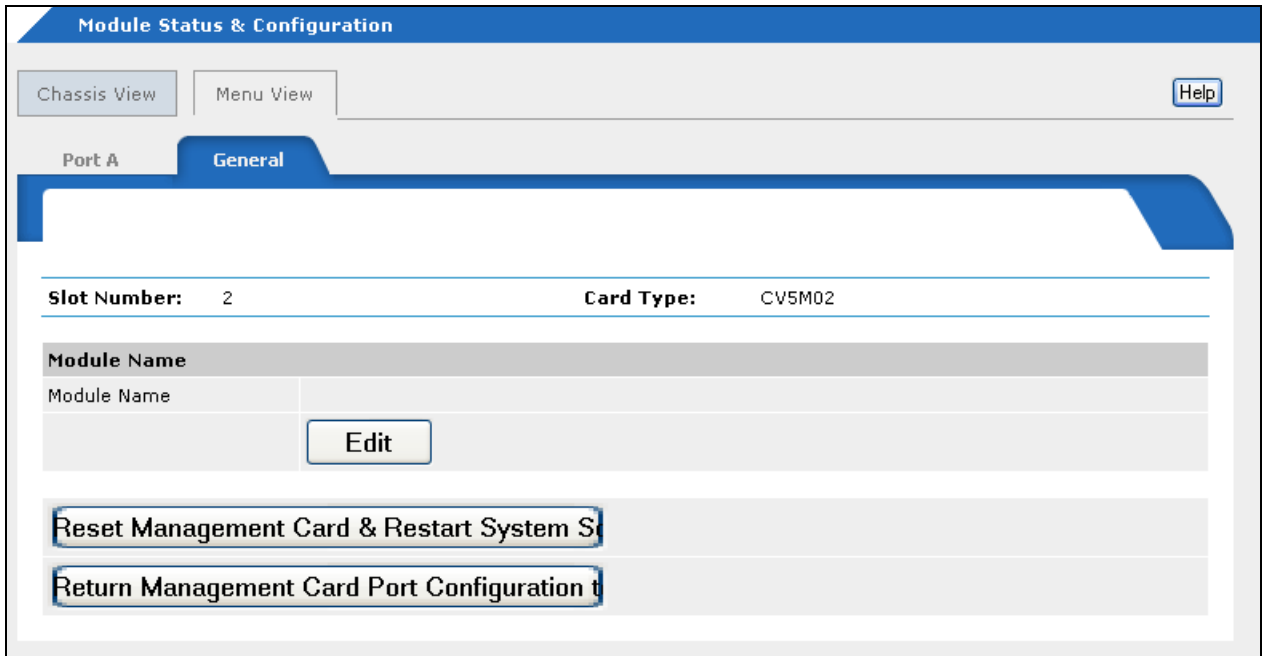

Figure 36. General Tab
3. Click the **General** tab, shown in Figure 36.